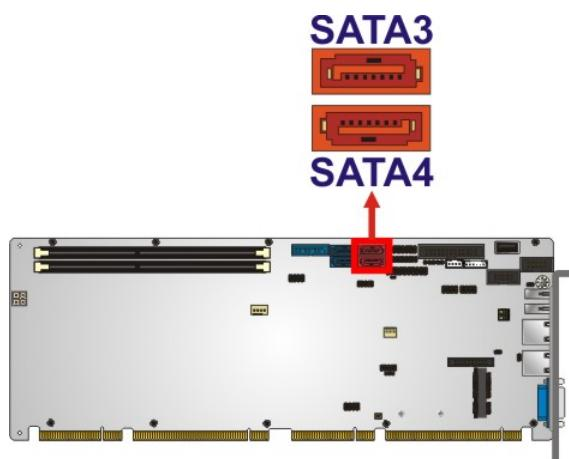

Figure 3-19: SATA 3Gb/s Drive Connector Location
**CN Location:** See **Figure 3-19**